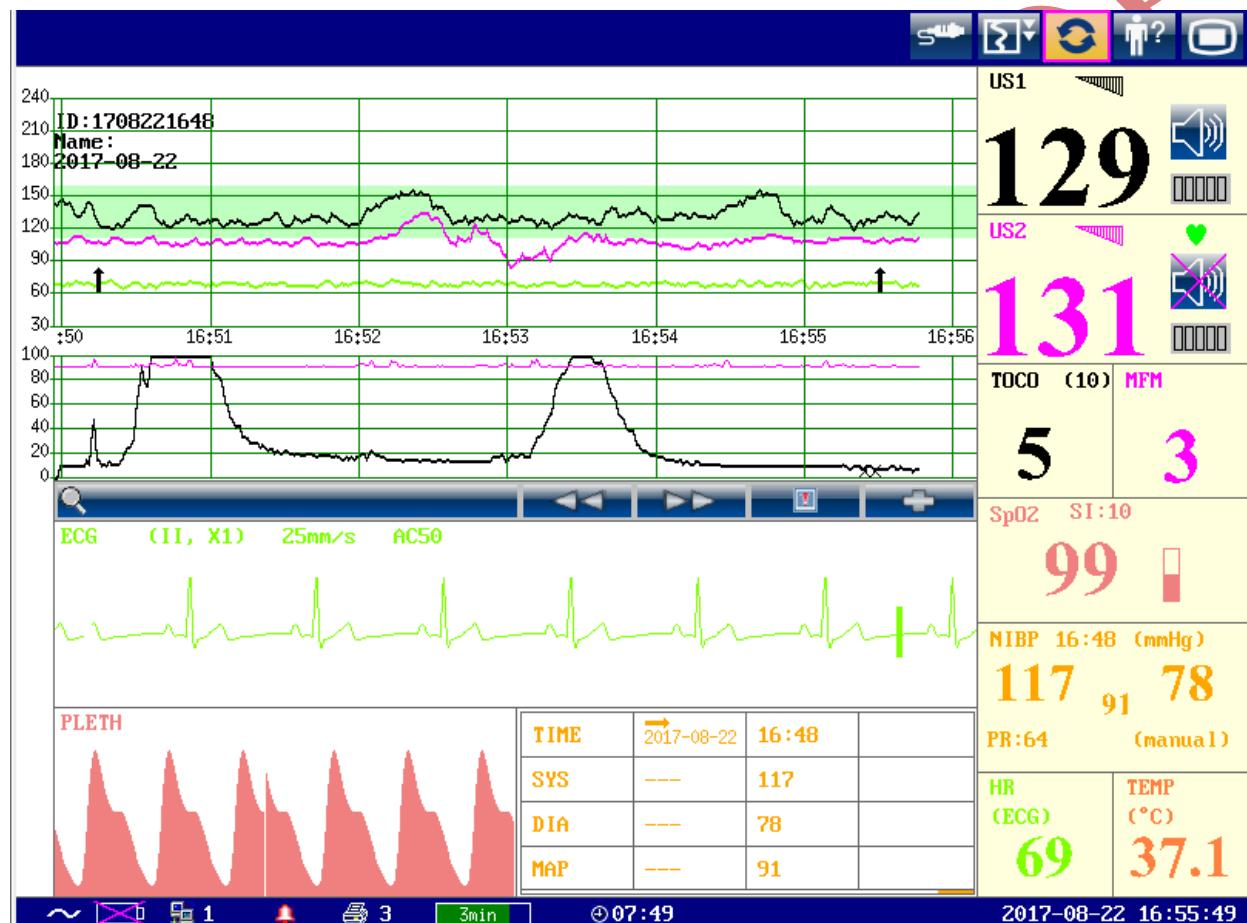
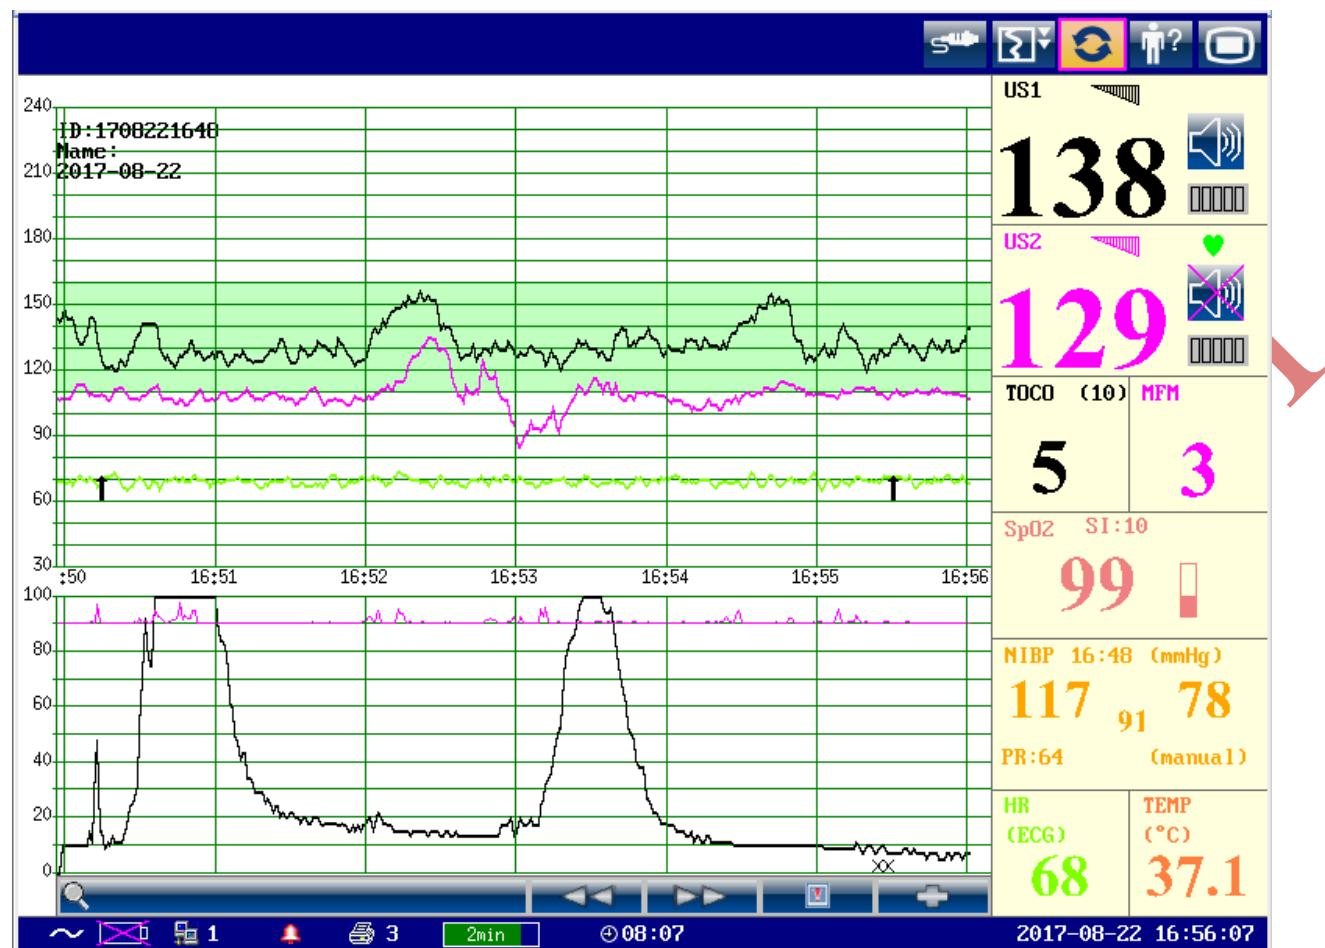
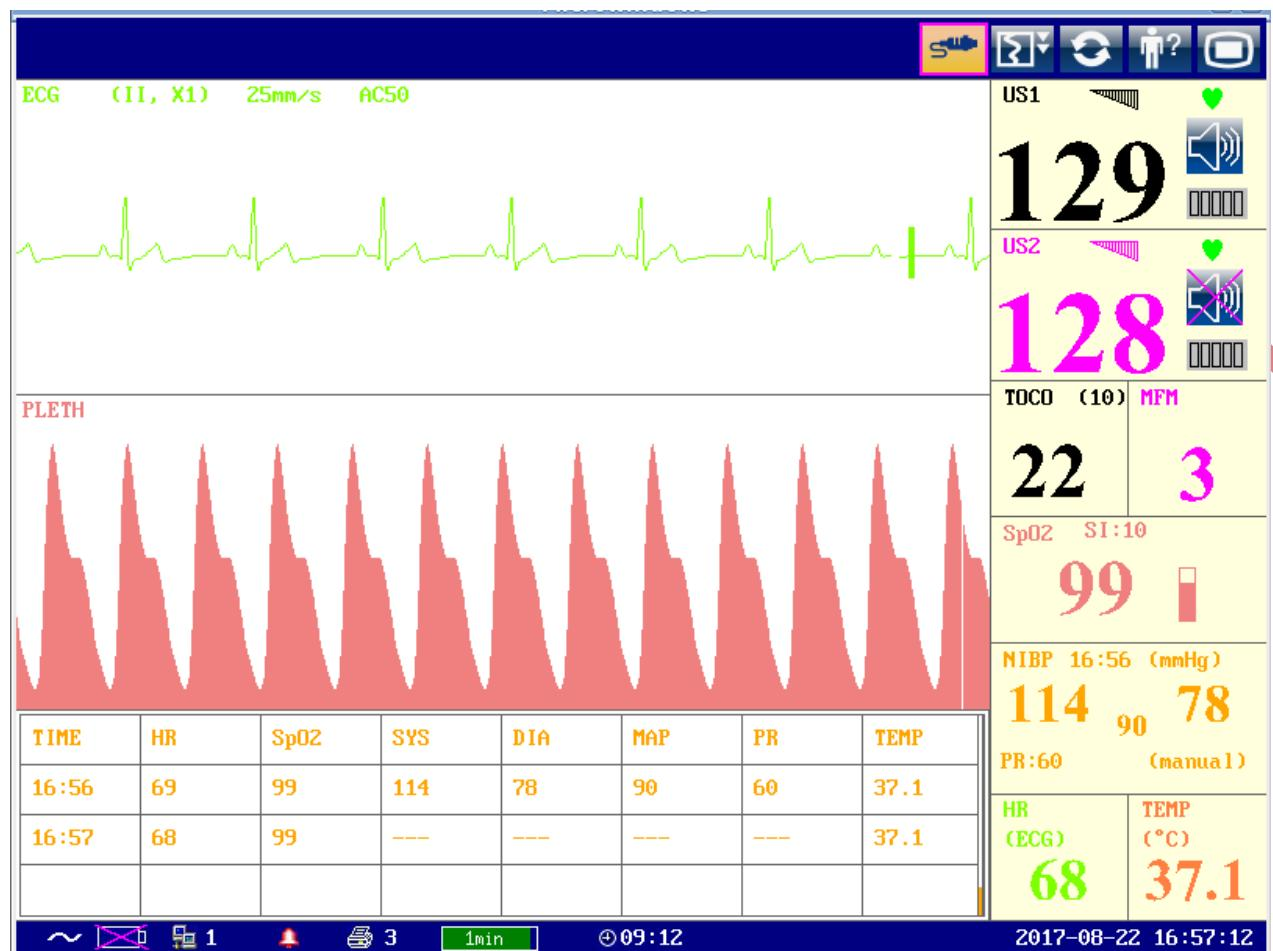

Figure 9-1 Maternal-Fetal Display mode
Figure 9-2 Fetal Display Mode
Figure 9-3 Maternal Display Mode
**MATERNAL MED-02** has three display modes: maternal-fetal display (figure 9-1), fetal display (figure 9-2) and maternal display (figure 9-3).